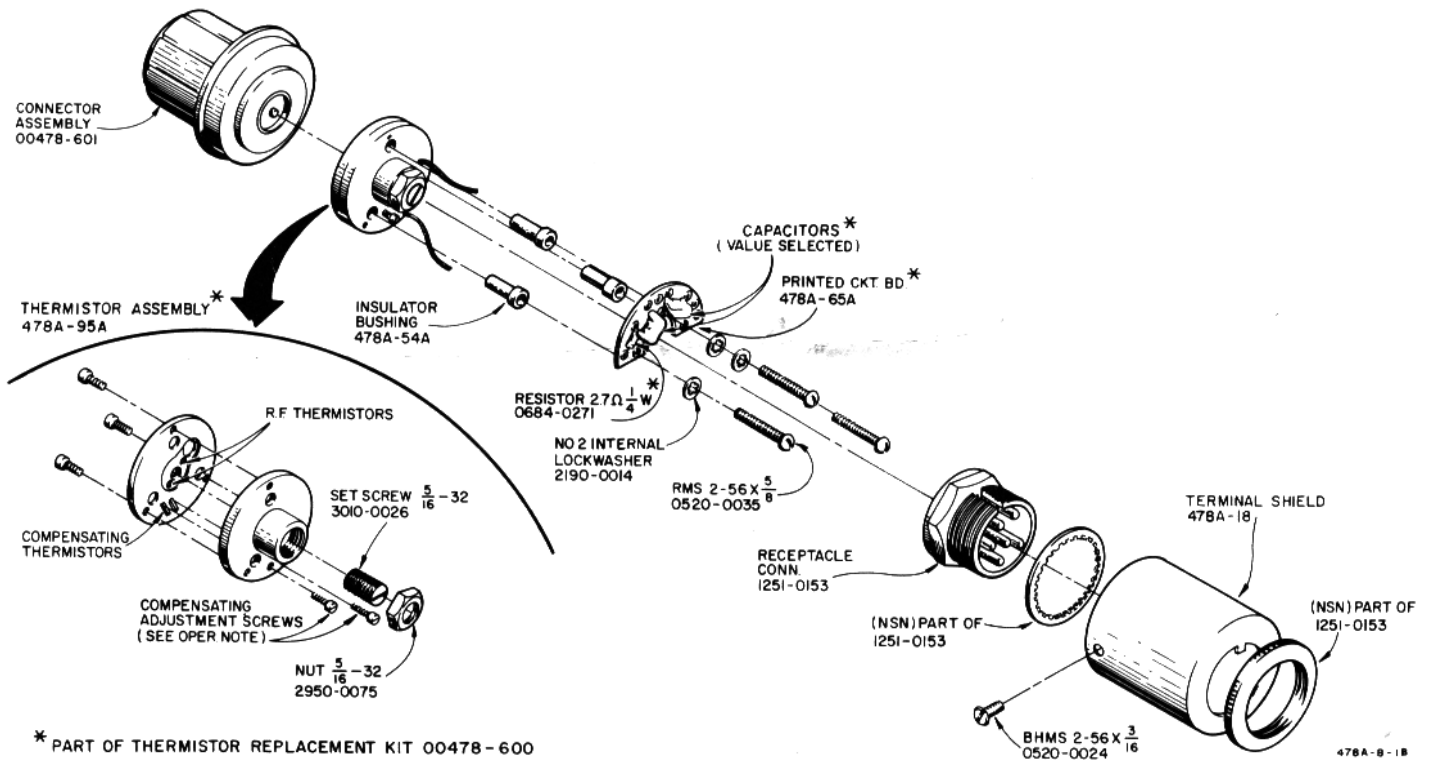

Figure 8. Model 478A Thermistor Mount Assembly
- a. Remove three 2-56 x 3/16 screws holding terminal shield (Figure 8). Move terminal shield aside.